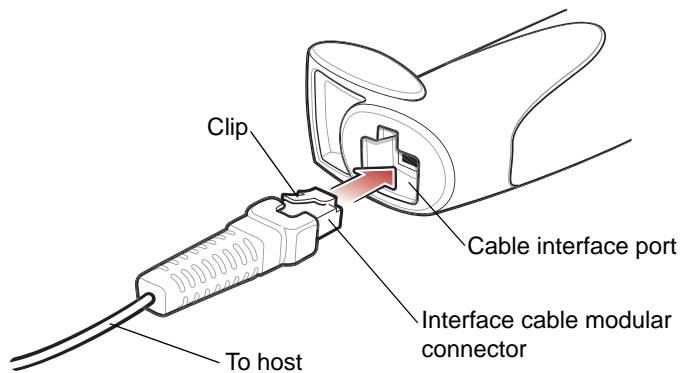

Figure 1-2 *Installing the Cable*
1. Plug the interface cable modular connector into the cable interface port on the bottom of the scanner handle (see Figure 1-2).